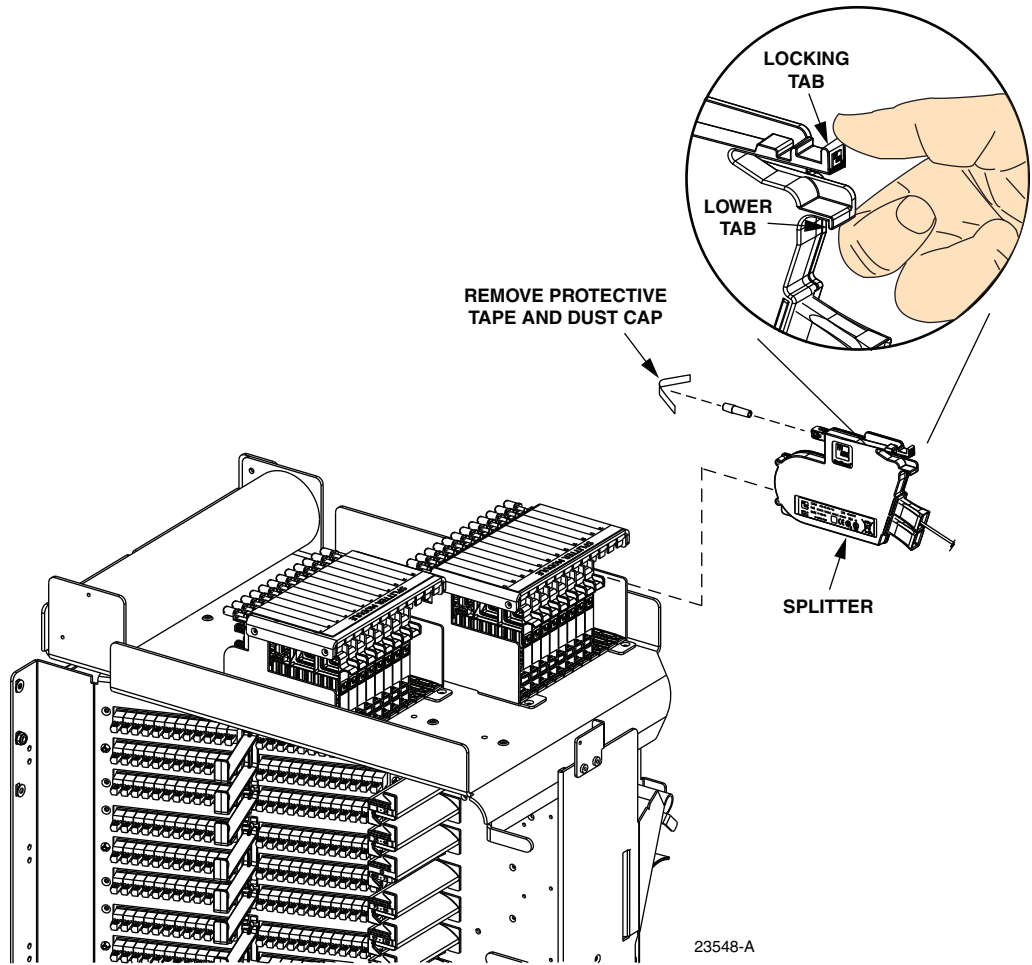

Figure 11. Splitter Installation
7. Remove the protective tape and dust cap from the splitter connector as shown in Figure 11.
9. Grasp the splitter using thumb and forefinger (see Figure 11) and gently squeeze the locking tab against the lower tab.